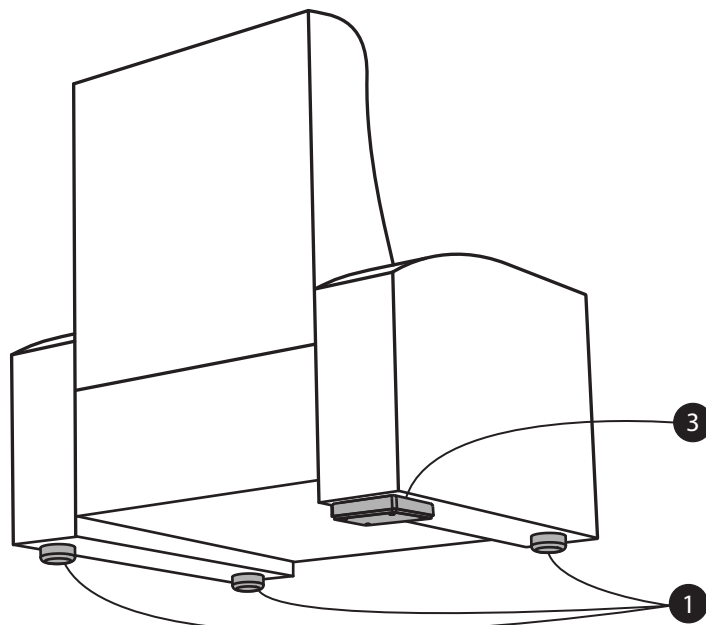
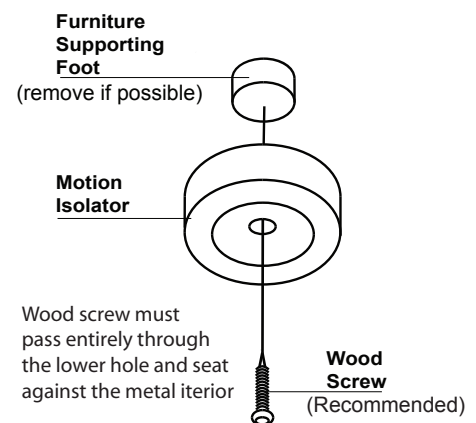
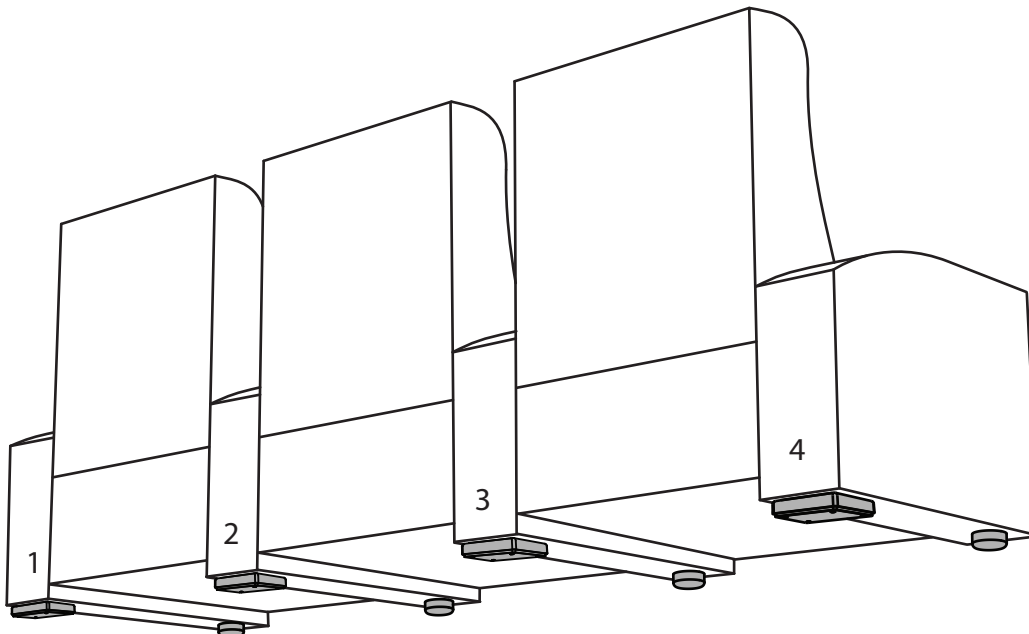

Figure 7
Figure 8
Figure 11
Tip seat(s) forward to access the underside. If possible, remove all of the furniture supporting feet. Position three Motion Isolators in place of the front supporting feet and one rear foot (ref: fig. 7). Orient each Isolator such that the metal threaded hole is close to the seat. Use the supplied #8 wood screw to secure the Motion Isolators. A 1/8 inch pilot hole may be necessary. In some situations it may be possible to secure the MIS with the 1/4-20 threaded hole and a 1/4-20 bolt (not supplied). If removal of the furniture feet is impractical, simply place the Motion Isolators under the supporting feet.(ref: fig. 8).
Place the T108S Actuator under the chair in place of a rear supporting foot. (Actuator may be placed under the rear or front feet, though rear feet may afford the Actuator more protection from errant objects.) If the chair's supporting feet are not removed, place the rear foot on the center of the T108S Actuator. Orient the Actuator such that the binding posts face towards the front of the couch or chair (ref: fig. 7) to avoid damage to binding posts from foot traffic.
Crowson T108S Tactile Motion Systems may be integrated into large home theater environments with multiple seats and multiple rows. We recommend installing one (1) T108S Actuator and one (1) Motion Isolator per arm (ref: fig. 11). Each "active" seating position must rest, in part, on at least one (1) T108S Actuator. Additional Motion Isolators may be purchased and added to support the additional feet of a non-standard seating design.
1. Install Motion Isolators: Per standard installation instructions (ref: fig. 8 and 11).
2. Connect Actuators to Amplifier(s): If using a Crowson Tactile motion amplifier, please refer to the amplifier Owners Guide. In multiple seat installations, it is often necessary to employ more than one amplifier. It is possible to "stack" amplifiers in order to share the input signals between two (2) or more amplifiers. This will require the use of a line-level multi-channel audio distribution system or the use of RCA "Y" adapters. Please consult with your Crowson Authorized Dealer or a qualified Crowson technician for assistance.
3. Install Actuators: Per standard installation instructions (ref: fig. 11).